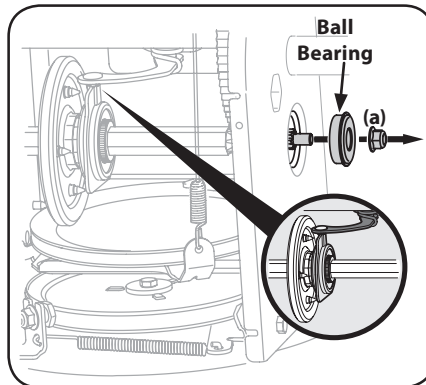

Figure 4-21
- Carefully remove hex nut (a) which secures hex shaft to equipment frame and lightly tap the shaft's end to dislodge ball bearing from right side of frame. See Figure 4-21.
NOTE: Make sure shift lever pin is in place in bearing housing. See Figure 4-21 inset.